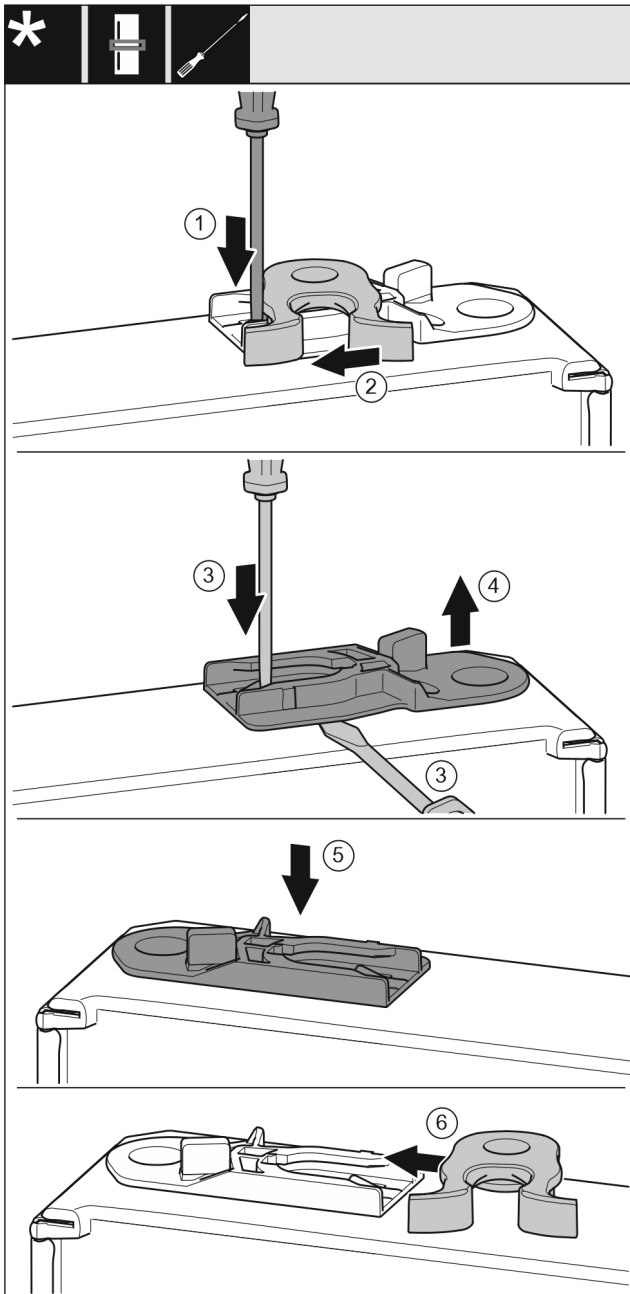

Fig. 52 *
- Use a slotted screwdriver to push the tab Fig. 52 (1) downwards.*
- Pull the closing hook Fig. 52 (2) out of the guide.*
- Pull out the guide bush Fig. 52 (3, 4): Press the tab with a flat-blade screwdriver and at the same time move the flat-blade screwdriver under the guide bush.*
- Insert the guide bush Fig. 52 (5) supplied on the other side of the housing.*
- Slide the closing hook Fig. 52 (6) into the guide.*